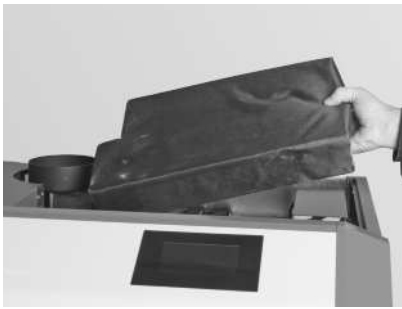

Fig. 52 Remove the insulation
- ▶ Take the insulation off the heat exchanger cover – Fig. 52.